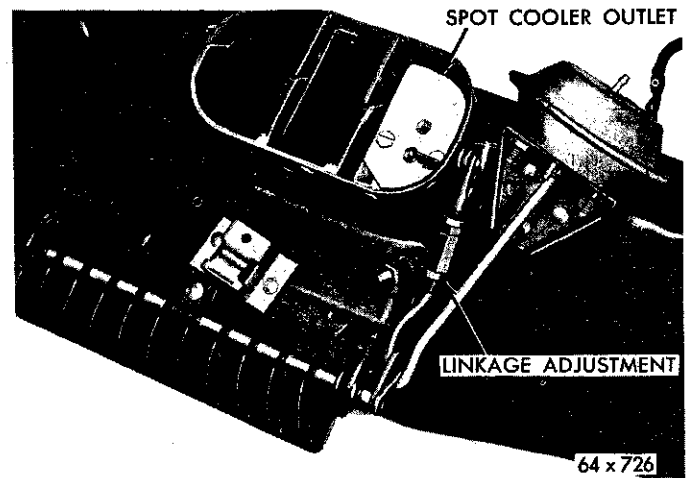

Fig. 51—Right Spot Cooler Outlet
(1) Install the blower motor and mounting plate to the distribution duct. Be sure the blower wheel is free and does not rub.
(2) Test the operation of right spot cooler outlet by applying vacuum to actuator away from the rod side. If the linkage is correct, the outlet door will be fully closed, and adjust the linkage as necessary (Fig. 51).
(3) Position the housing on the dash panel, making sure the large mounting-plate-to-dash-panel gasket is properly positioned to insure a good seal. Install